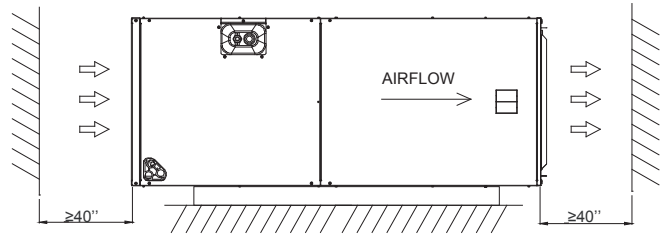
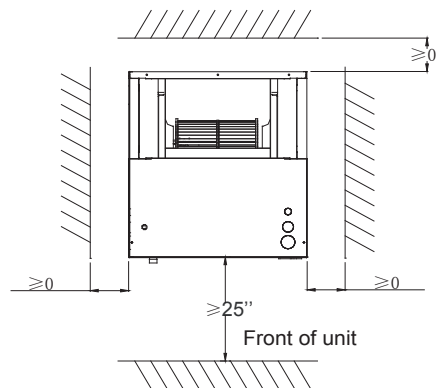

Fig.2 CLEARANCES IN THE HORIZONTAL POSITION
Fig.3 CLEARANCES IN THE VERTICAL POSITION
See Fig.2 and Fig.3.
- Low voltage control connections are made to low voltage pigtailed extending from top of air handler (upflow position - see Fig3).